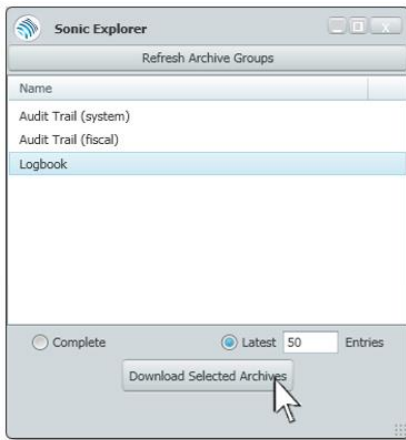

Figure 17-2 Archives window
- ✓ A new window will open as seen below in Figure 17-2.
- ▶ Press **Download Selected Archives**. (Figure 17-2)